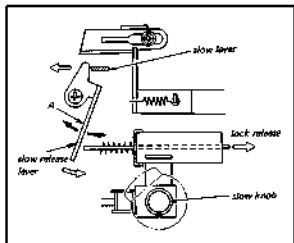

Fig. 4-21.
- If the above condition does not exist, bend Section A with a pair of pliers for adjustment. Refer to Fig. 4-21. The reel panel and the sash should be removed before adjustment.